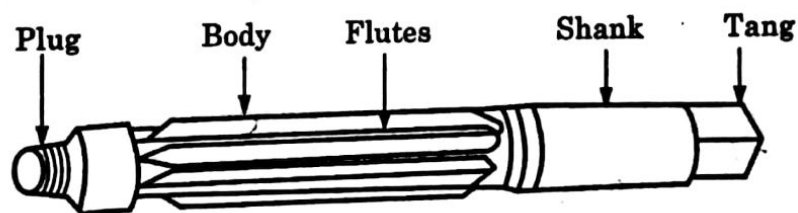

Fig. 2.43 : Straight Flute Expansion Reamer
7. Expansion Reamers : Expansion reamer consists of two parts : Main body and a taper plug. The main body carries the cutting teeth/flutes and a slightly taper hole inside and is slitted longitudinally to allow expansion. The taper plug is fitted at the end which, when screwed on, creates the desired expansion. The flutes may be straight or spiral (See fig. 2.43). These reamers are made both in hand and machine types. Hand reamers are oftenly used to enlarge a hole slightly in order to secure the necessary fit.